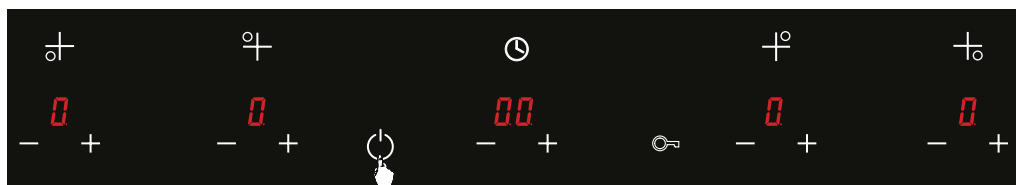

Figure 43
1.  It may be turned off by pressing the XX key. (see Fig. 43)